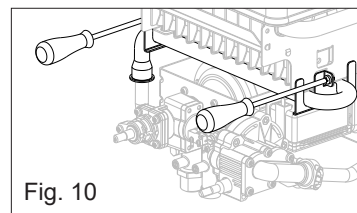

Fig. 10
- Loosen the fixing screws of the burner manifold (fig. 10)